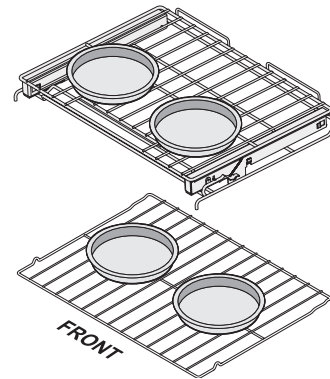

Figure 5: Pan spacing on multiple racks
- When using two oven racks, position cookware as shown in Figure 5. Allow at least 2-4 inches (5-10 cm) of space between cookware for proper air circulation.